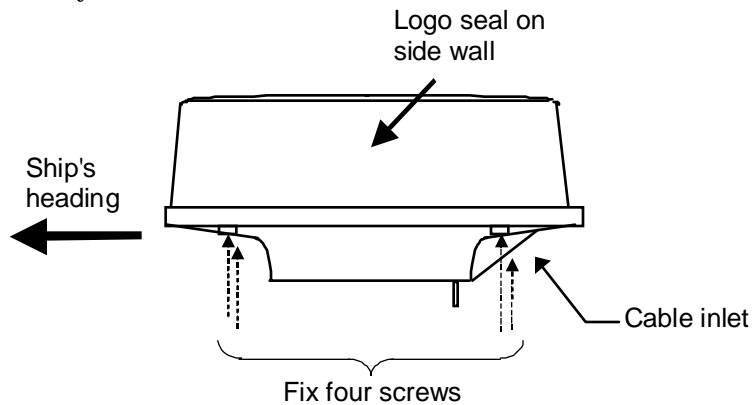
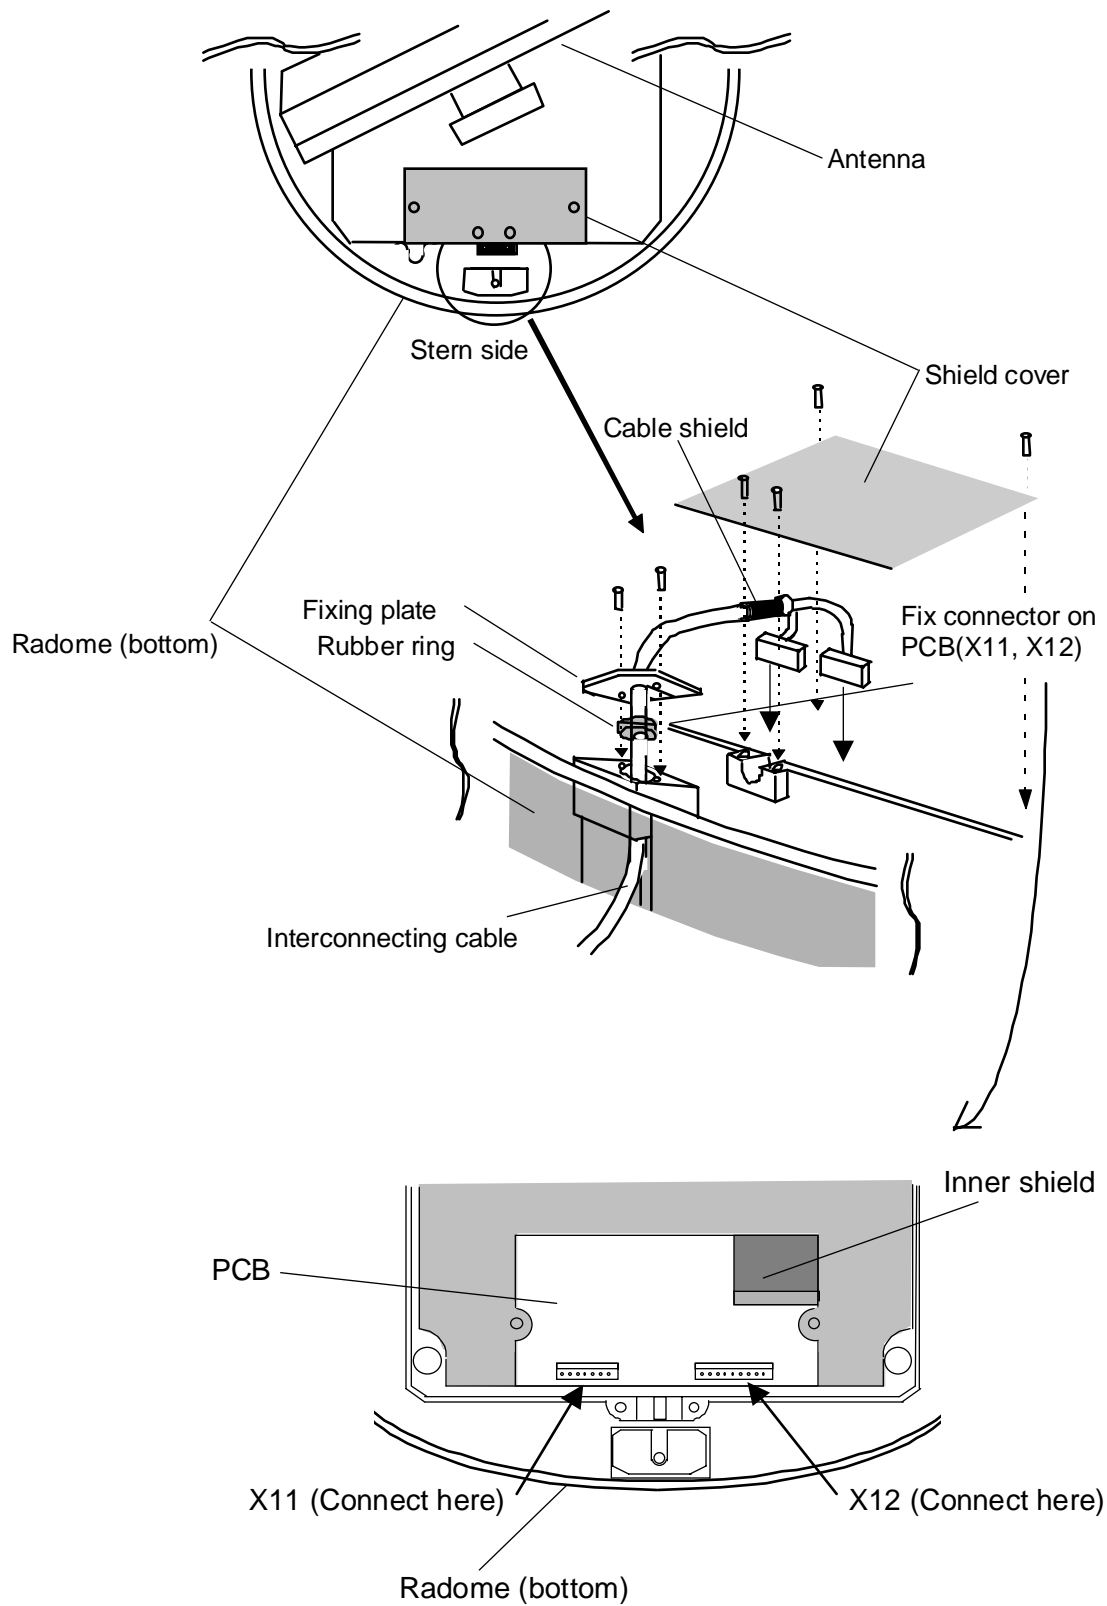

Fig.3-7-2 Fitting cover (RA41C)
Fig.3-8-2 Fitting interconnecting cable (RA41C)
3.7.1 Interconnecting cable (RA41C Radome scanner) (See Fig.3-8-2)
- ① Ensure that the radar is off. Connect the cable to the receptacle labeled "SCANNER" on the rear panel of the display unit.
- ② Next, remove the upper part of the radome from the scanner unit. Avoid bumping it against the antenna by lifting vertically. (There are four fixing screws.)
- ③ Remove the tape fixing the antenna.
- ④ Remove the shield cover located on the astern side. (There are four fixing screws.)
- ⑤ Remove the cable clamping plate and rubber ring, pass cable through the introduction opening, put the rubber ring from both ends of it, and clamp the cable to the scanner unit with screws via the fixing plate. Connect 7-pin connector to X11 and 9-pin connector to X12 of PCB.
- ⑥ Replace the aluminum cover. At this time, attach a cable shield onto a ditch with the aluminum cover. However, be careful that the cable will not be caught up between the main unit and cover.
- ⑦ Replace the upper part of the radome. Be careful not to bump it against the antenna in the same way as when removing it. Make sure that the cover is fitted in the correct direction as shown in Fig.3-7-2. The upper and lower parts of the radome each have four markings indicating screw positions. Align the upper and lower positions as you mount the radome.